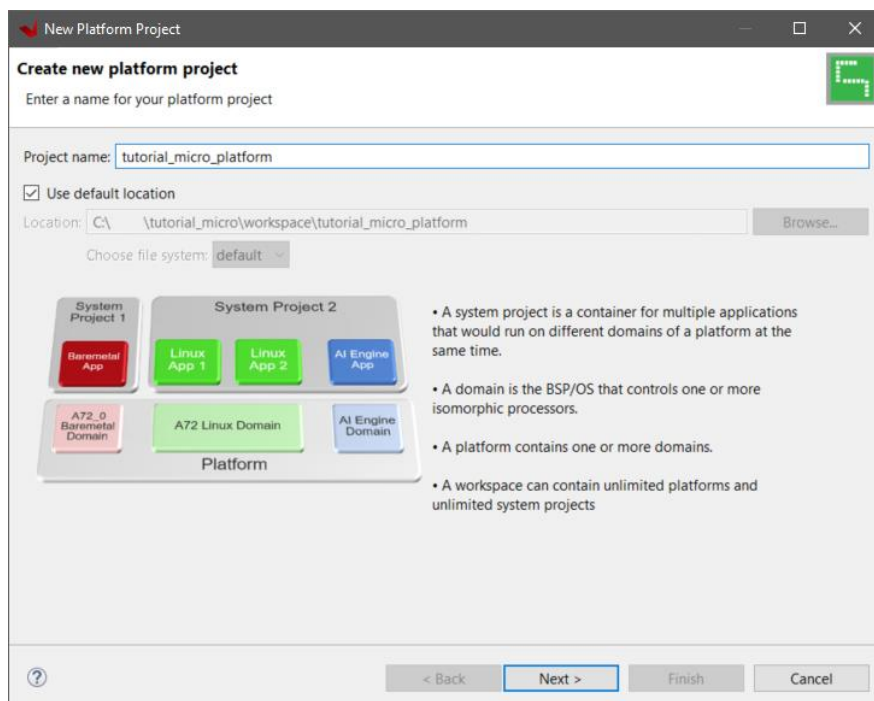

Figure 23
4. Type **tutorial_micro_platform** in the **Project Name** field (Figure 23)